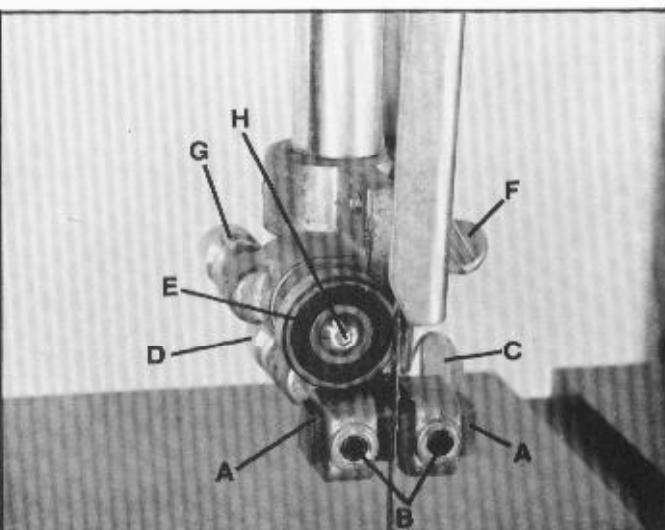

Fig. 20
1. The upper blade guides (A) Fig. 20, are held in place by means of the set screws (B). Loosen the set screws (B) to move the guides (A) as close as possible to the side of the blade, being careful not to pinch the blade. Then tighten the screws (B).
2. The guides (A) Fig. 20, should then be adjusted so that the front edge of the guides are just behind the "gullets" of the saw teeth. The complete guide block bracket can be moved in or out by loosening thumb screw (C) and turning knurled knob (D) Fig. 20. When guides (A) are set properly, tighten thumb screw (C).
3. The upper blade support bearing (E) Fig. 20, prevents the blade from being pushed too far to the back which could damage the set in the saw teeth. The support bearing (E) should be set $1/64"$ behind the blade by loosening thumb screw (F) and turning knurled knob (G) to move the support bearing (E) in or out.
4. The blade support bearing (E) should also be adjusted so the back edge of the blade overlaps the outside diameter of the ball bearing by about $1/16"$. The bearing (E) is set on an eccentric and to change position remove screw (H) and bearing (E) Fig. 20. Loosen thumb screw (F), back out screw (G) and re-position shaft that bearing (E) is attached to.